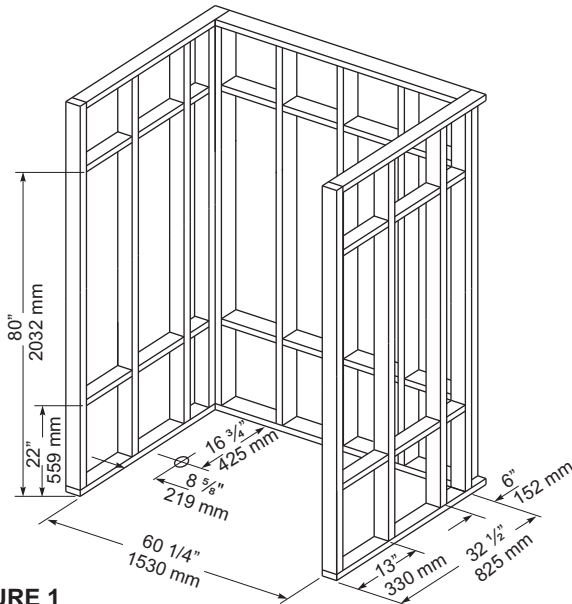
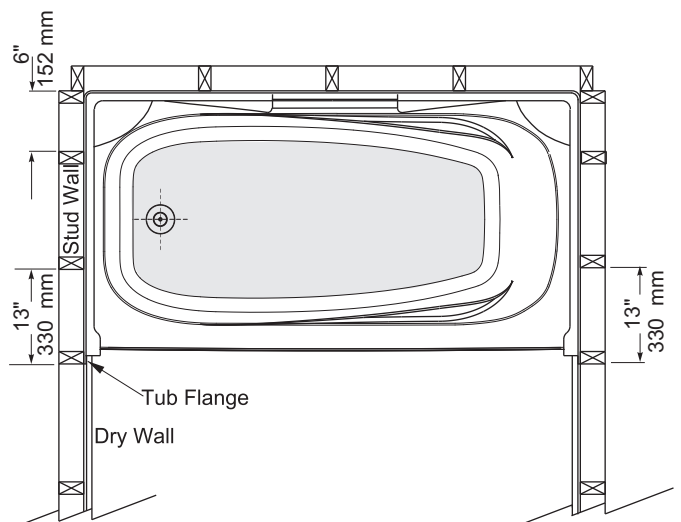

FIGURE 1
FIGURE 2 - SHOWING THE TOP VIEW OF THE SHOWER IN THE ALCOVE.
- The Tub Shower is to fit into framed alcove as shown in Figure 1 and Figure 2.
Inside dimension of the studded alcove are to be as specified in Figure 1.
- Build solid framing to the dimensions in figure 1.
- Make sure that the vertical studs on the side wall is at the dimension as shown in figure 1 and 2.
- The drain location on the tub shower is shown in figure 1.